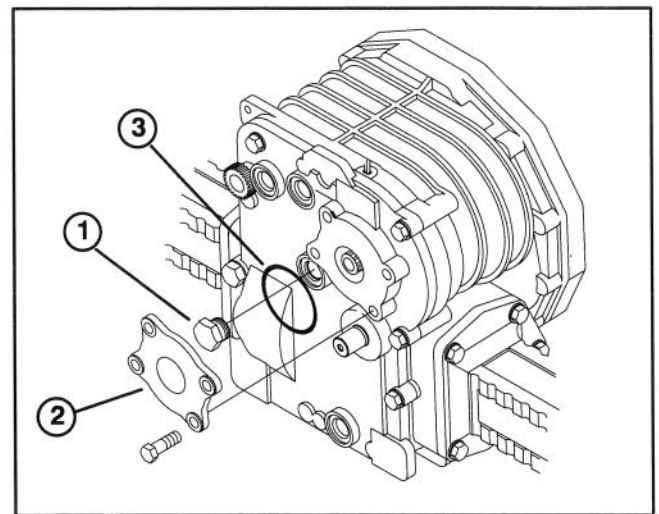

Figure 1
2. Remove plug (Fig. 1) from front of axle.
5. Remove (4) metric bolts securing cover plate (Fig. 1) to front of axle. Remove cover plate to expose PTO clutch shaft.